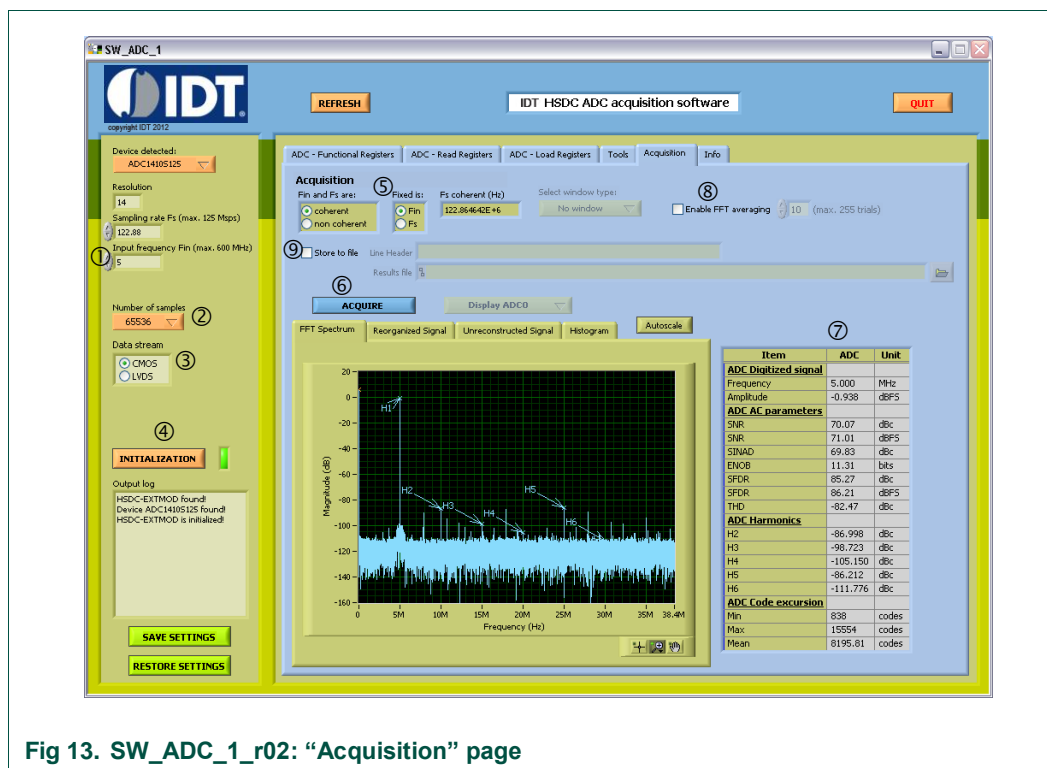

Fig 13. SW\_ADC\_1\_r02: "Acquisition" page
- Browse to select your file (button ①);
- Click on “Load data” button ②.
A message on field ③ and a progress bar will inform about the status of the operation until message “download done!” is seen. The table ④ is updated with the current values downloaded at the fly as can be seen on figure 13.